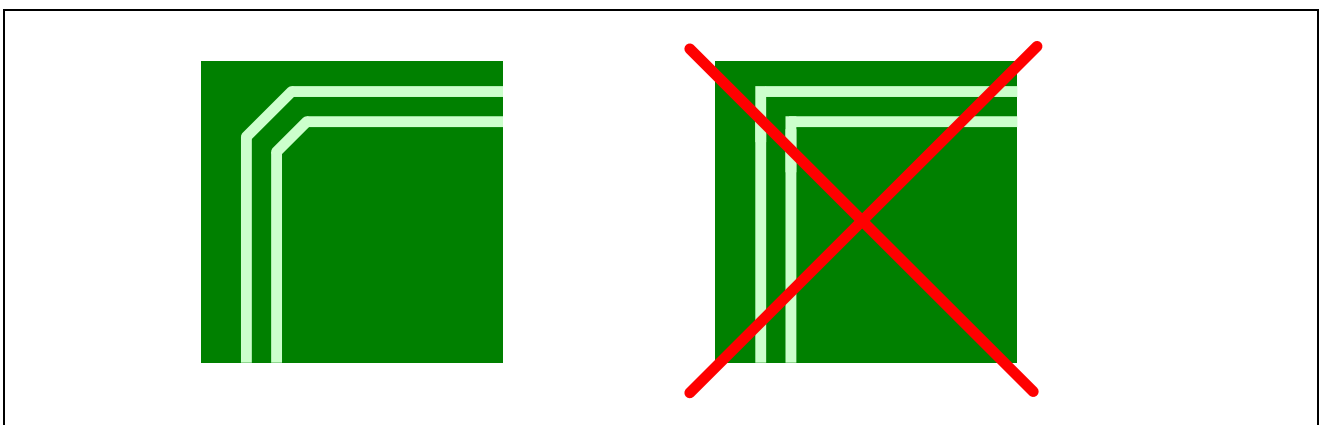

Figure 7.4 Wiring example of the differential signal transmission line (1)
- Lines should bend with 135 degree angle or more. (Figure 7.4)